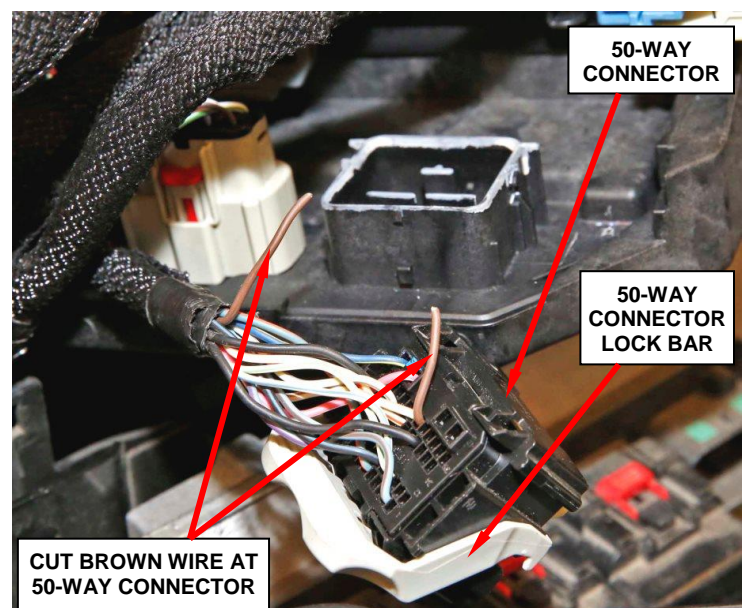

Figure 15 – Cut the Brown Wire One Inch From Connector
9. Cut the brown wire one inch (25 mm) from the 50-way electrical connector (Figure 15).